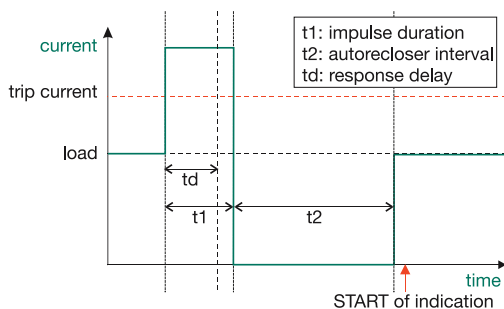

figure 10: temporary fault
Temporary faults are fault situations where a fault current leads to a power failure that can be fixed by switching it on again. When the autorecloser settings are enabled the FLA3.1L will also be able to detect temporary faults (refer to figure 10).
- 2. Temporary fault: A fault causes the net to switch off. But the net is energized after the autoreclosers performed switching operations. (Please refer to figure 10.)
Please note: When the “AUTO RECLOSE” option is on, the FLA3.1L will indicate a fault after the expiration of the interval adjusted in the “RECLOSER TIME” option, because the type of fault can only be identified accurately after the last reclosing attempt. Therefore there will be a certain indication delay with enabled “AUTO RECLOSE” option. (See also figure 10.)